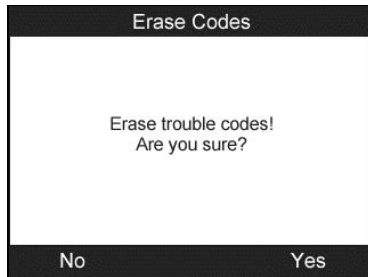

Figure 6.6
- 2) A confirm screen will show up. Press the corresponding **FUNCTION** button “**Yes**” to continue; otherwise press the corresponding **FUNCTION** button “**NO**” to exit (Figure 6.6).